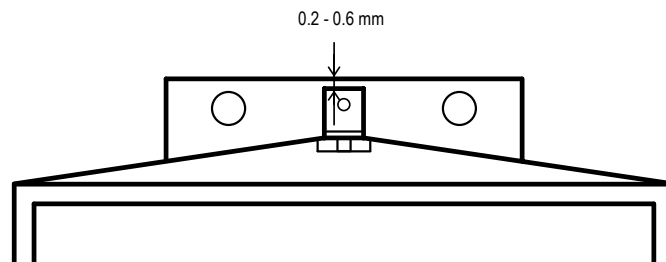

Fig. 1
*The spindle must be 0.2 - 0.6 mm below the edge of the mounting plate (see Fig. 1).*